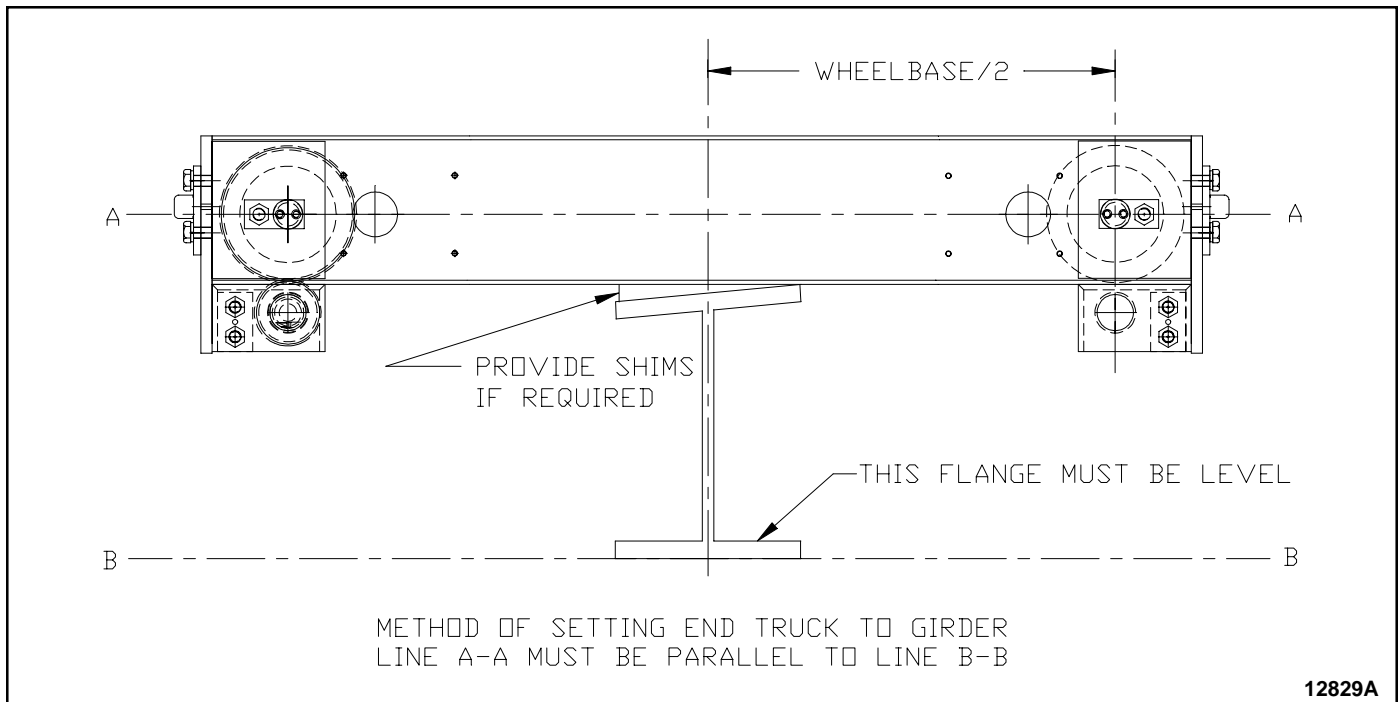

Figure 4.
1. Refer to Figure 4.,
9. Square trucks on top of girder and securely clamp in place. Shim, if necessary to keep the bottom flange of the girder level (See Figure 4). To check the distance between trucks, measure from the back of the inside channel at one end of the span to the back of the outside channel at the other end of the span. This distance should equal the span. Check at both ends of the trucks to assure truck alignment.